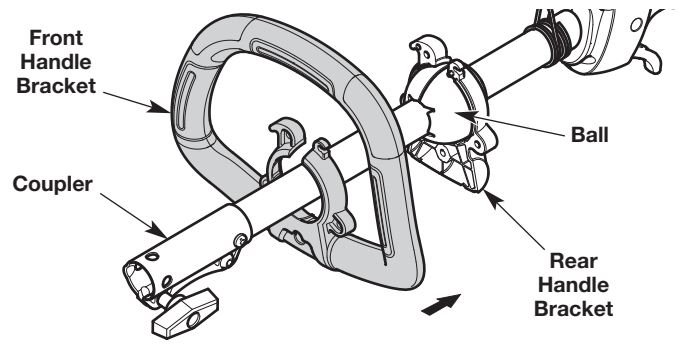

Fig. 5
3. Push the rear handle bracket onto the back of the ball and hold it in place (Fig. 5).
4. Carefully maneuver the front handle bracket over the coupler and push it onto the front of the ball (Fig. 5). Hold the front and rear handle brackets together.